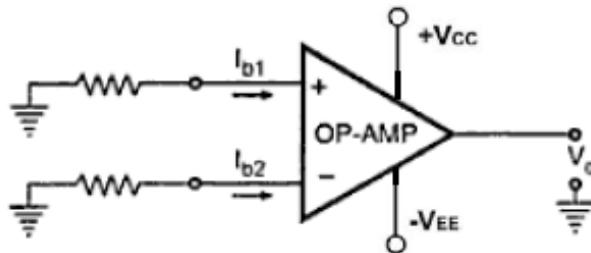

Figure 3.8: Input bias currents
2. **Input bias current ( $I_B$ ):** It is the average value of the current that flows into the inverting and non-inverting input terminals of an Op-Amp as shown in Figure 3.8.